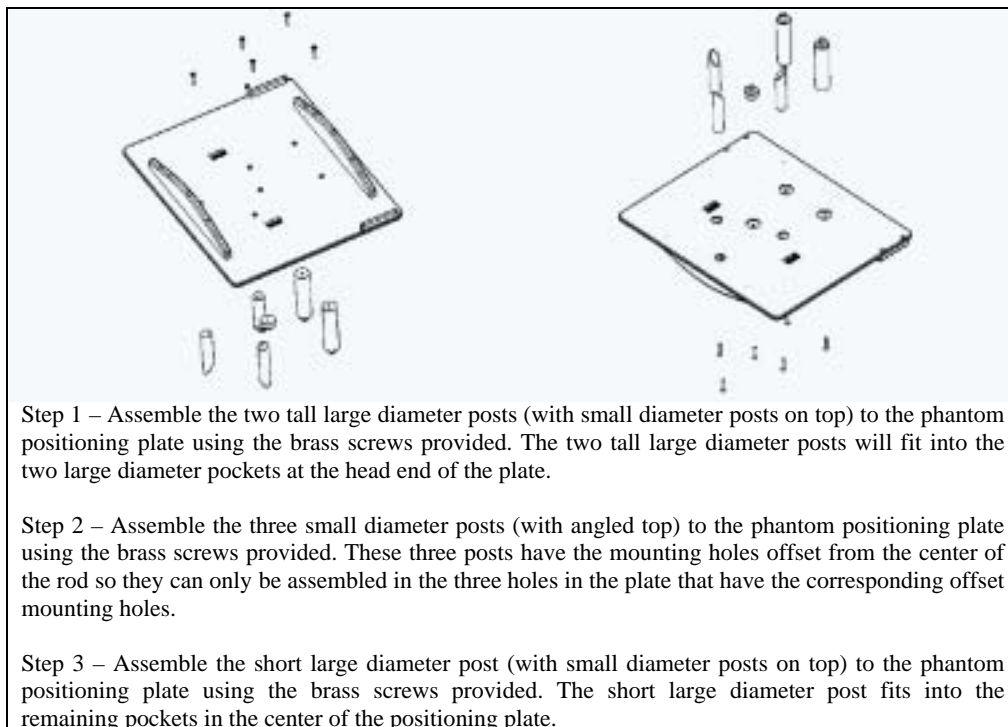

Figure 5: Assembling the phantom positioner.
1. Assemble the phantom positioner as shown in *Figure 5*.